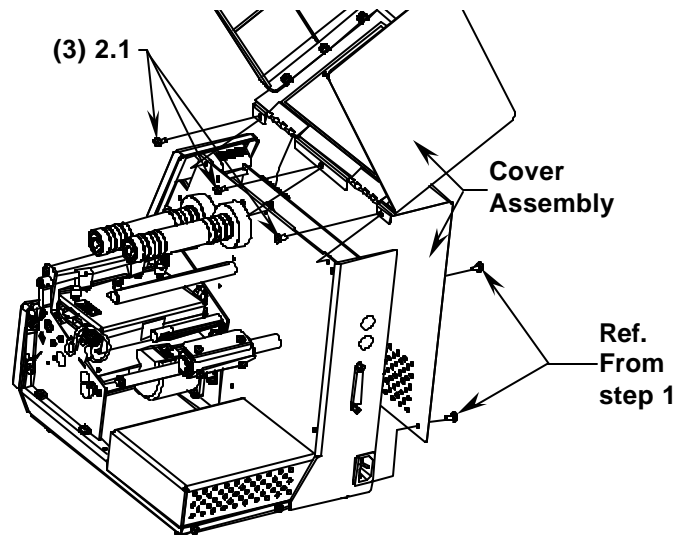

Fig. 2
4. Lift and rotate the right side panel until it rest on the top side of the left panel then remove three M4 Phillips screws (2.1) and the Cover Assembly from the printer chassis (Fig.2).